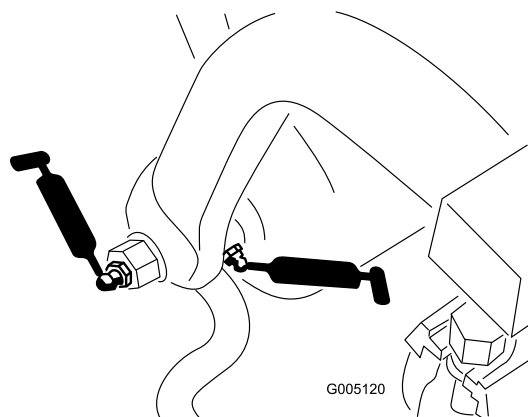

Figure 31
- Pull-frame shaft and roller (12) (Figure 31)